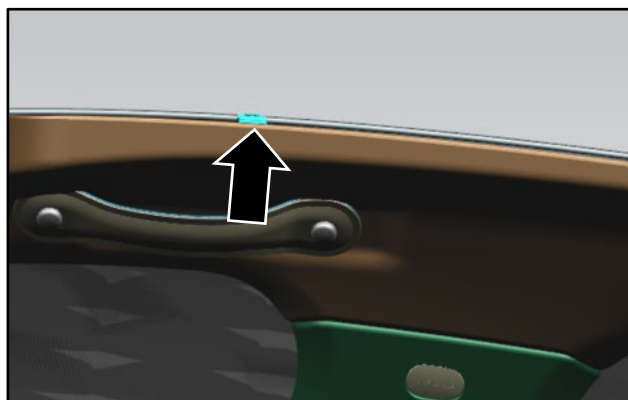

Figure 7
- 8. Install the headliner into position (refer to Figure 7). You will hear a click when the clip is engaged correctly.